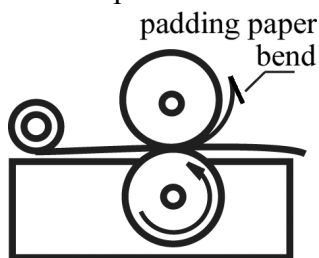

Figure 9
1. Cut one piece of film at about the same size as the picture and make the film face up. Then roll the picture with film and make sure they are well aligned. Put one side of the roll between the two rollers of the cold laminator (make sure it is aligned correctly). The head of the picture should be 30 cm longer than the rollers (Figure 9) put down the rollers and turn the adjustable knob clockwise till idling.
2. Peel one side of the film off the padding paper about 10 cm, fold the padding paper backwards (see Figure 9). After releasing the film, turn the handle counterclockwise, Press the head of the picture and the film, to stick their together and make sure they are still between the rollers. Roll up the film and the picture to let the folded padding paper show up.